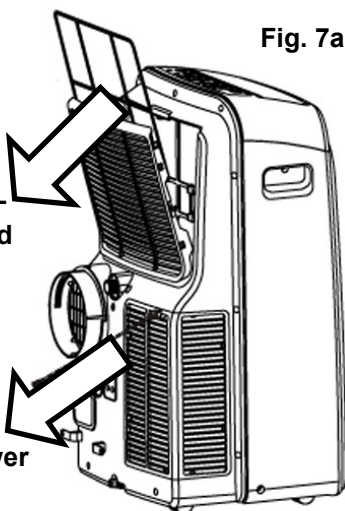

Fig. 7b
- Switch off the air conditioner and remove the Silvershield pre-filter and 3M filter from the unit (Fig. 7a and Fig. 7b)